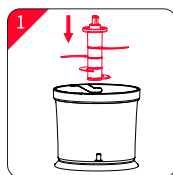

Fig. 1
- 1 Secure the blade to the spindle, then rotate the blade assembly by hand to check that it is in place. (Fig.1)